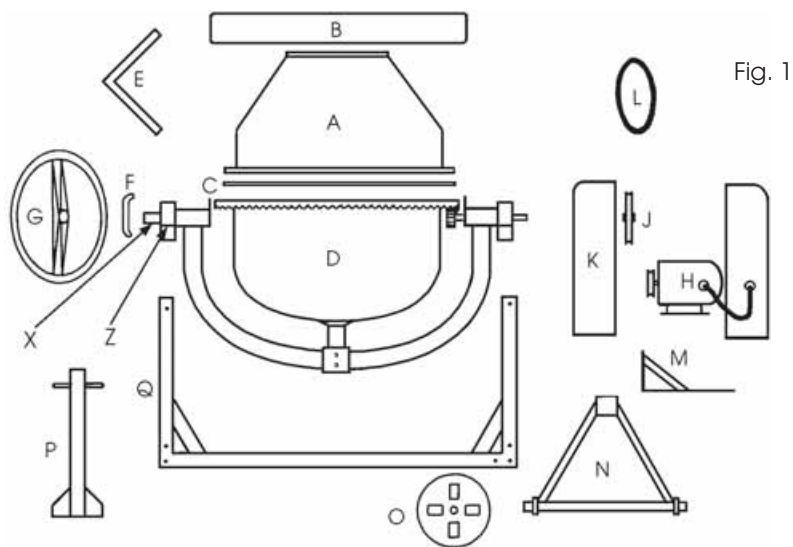

Fig. 1
Check off the components against the following list, and referring to fig 1.
- NOTE:** 1. Letters in brackets refer to fig.1